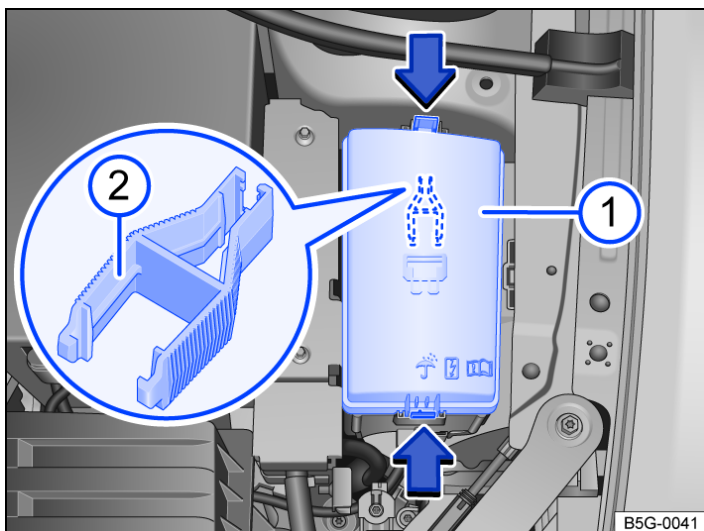

Fig. 1 In the engine compartment: cover ① of the fuse box including plastic pliers ②.
— Press the catches in the direction of the arrow *→ Fig. 1* to release the fuse box cover *→ Fig. 1* ①.